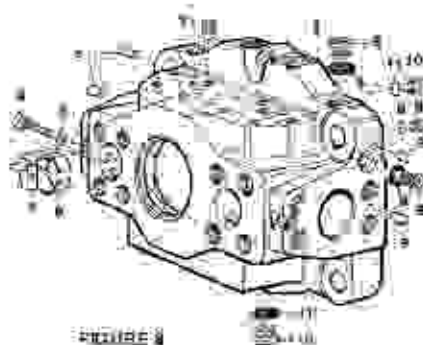

FIGURE 8
See Figure 8. Position the port block (1) on a clean flat surface with two open ports up. The O-Ring faces must not be scratched or damaged.
PARTS LIST FOR FIGURE 8